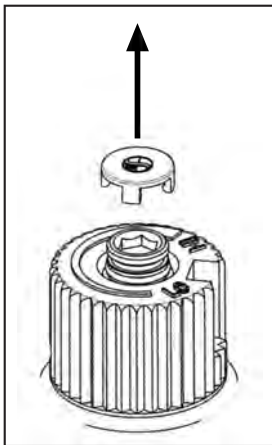

Figure 14: Removing valve cap.
- a) Remove the black protection cap from the HI/LO knob by hand shown in Figure 14.
- g) Re-attach the black protection cap that was removed in step a (Figure 14).